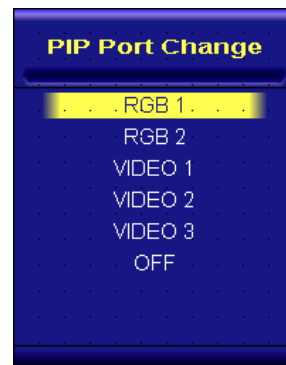

Figure 2
2. Default main screen stays at DVI1 & DVI2 → Press “PIP” button → Figure 2